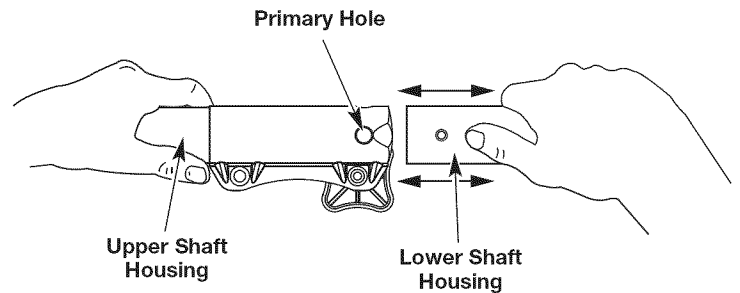

Fig. 5
2. While firmly holding the trimmer attachment or other attachment, push it straight into the Convertible™ coupler until the release button snaps firmly into the primary hole (Fig. 5).
3. While firmly holding the upper shaft housing, pull the trimmer attachment or other attachment straight out of the Convertible™ coupler (Fig. 5).